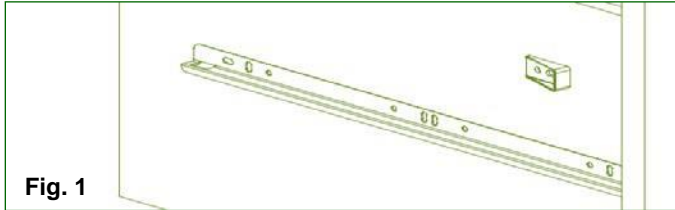

Fig. 1
Locate the Glides as shown in Figure 1 above on the Drawer Assembly (Items 7 and 8). Locate the Glide-Insert as shown in Figure 2 above on the End Panels (items 1 and 2 of the currently assembled product).